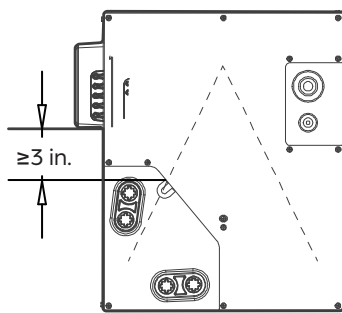

FIGURE 1
- Figure 1: Installed on the side of the coil. (Vertical mounting, you can choose left or right)